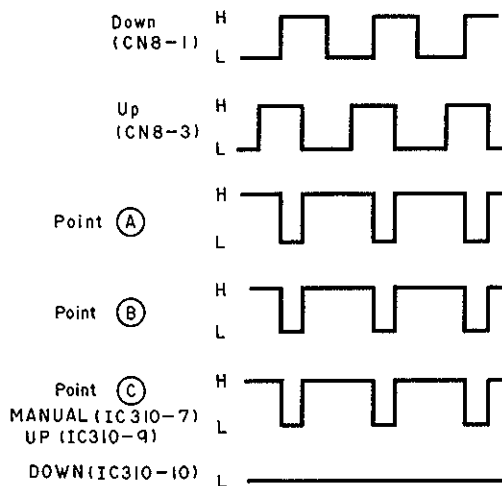

Fig. 10
Suppose the incremental rotary encoder is turned in the UP (clockwise) direction. The points (A), (B) and (C) will have pulses generated at the timings shown in Fig. 10.